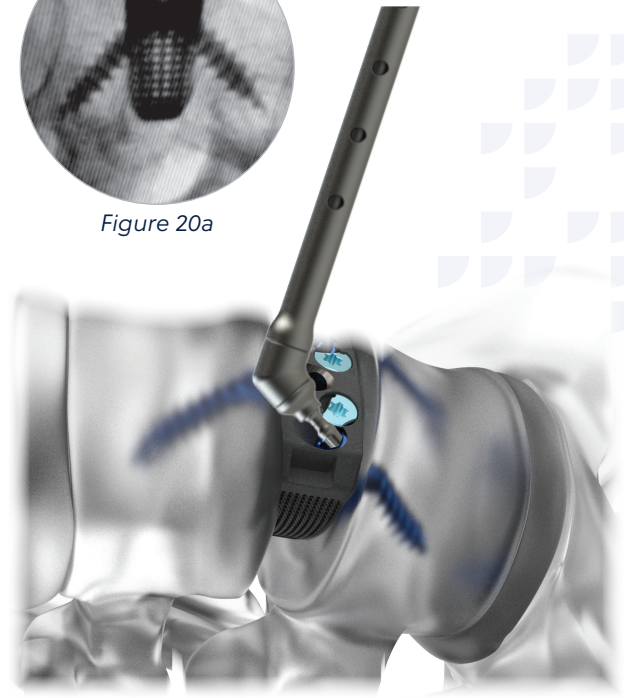

Figure 20
- Insert the screw into the desired screw pocket and advance the screw by turning the axial ratcheting handle clockwise until bottomed out (Figure 20). Repeat for all screws to complete the construct.